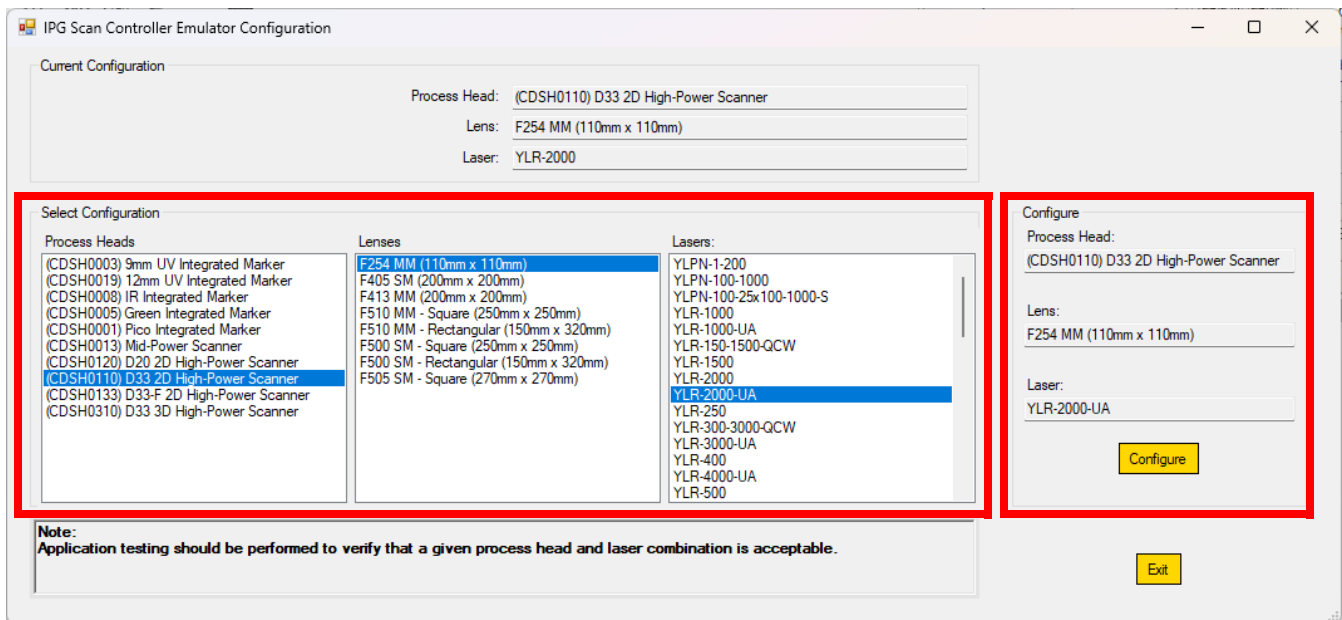

Figure 325: Emulator Configuration - Select Configuration
5. The new Emulator configuration can be selected in the middle section of the Emulator Configuration window. See Figure 325 (below).